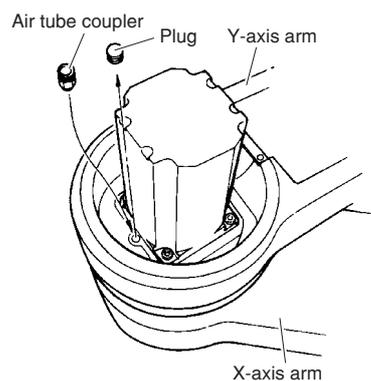

Fig. 5-71
- 6) Remove the plug on the top of the Y-axis arm. (See Fig. 5-71.)